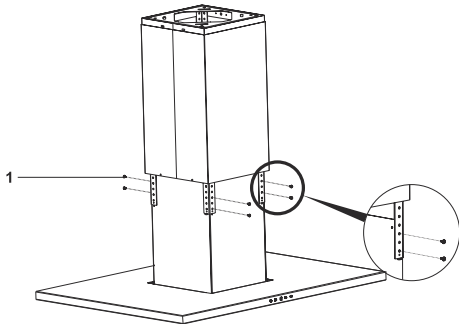

Fig. 14
**1.** → Remove the sheet metal flue fixing screw (Fig. 14).
Lift sheet metal flues up and screw the product to product hanging bars with 3.5 x 9.5 r phillips cylinder head screws (Fig. 14).